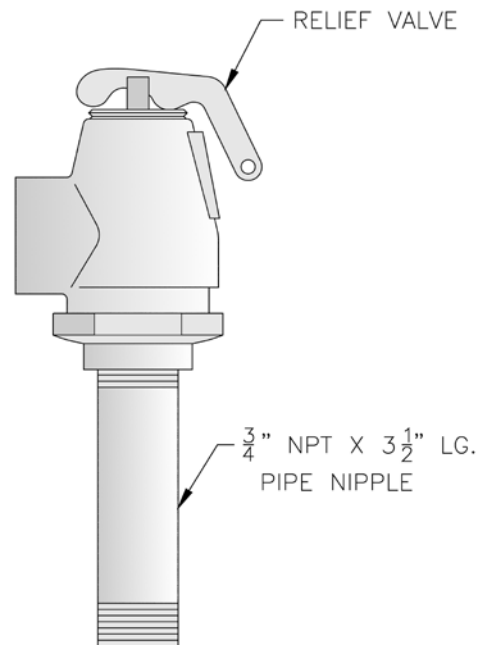

Figure 18: Safety Relief Valve Installation
C. Install Safety Relief Valve. See Figure 18.